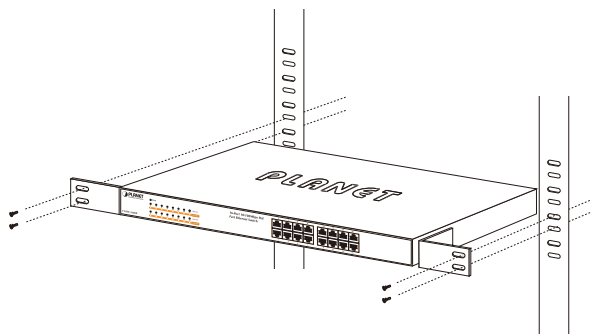

Figure 3-3: Mounting the 802.3at PoE+ Ethernet Switch in a Rack
- Step5:** After the brackets are attached to the Switch, use suitable screws to securely attach the brackets to the rack, as shown in Figure 3-3.